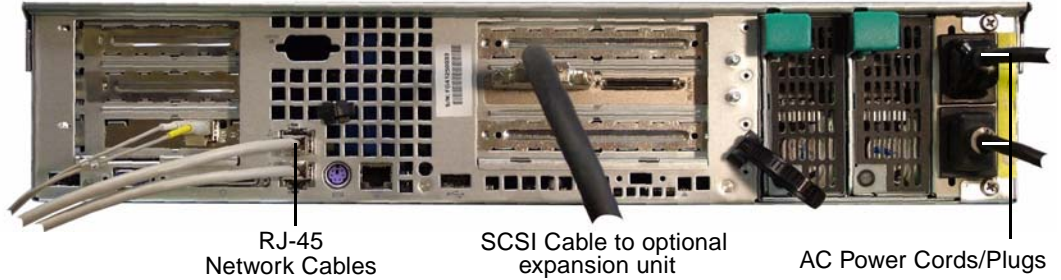

FIGURE 2-15 Connecting the Sun StorEdge 5210 NAS AC Power Cables
2. Connect one end of the AC power cable to the Sun StorEdge 5210 NAS (see FIGURE 2-15).